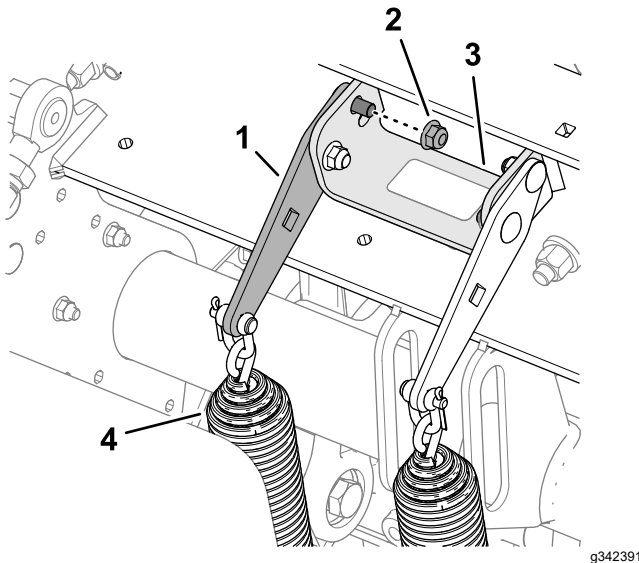

Figure 109
2. Loosen the forward flange locknut and carriage bolt that secure the spring-tension plate to the support bracket of the coring head (Figure 109).